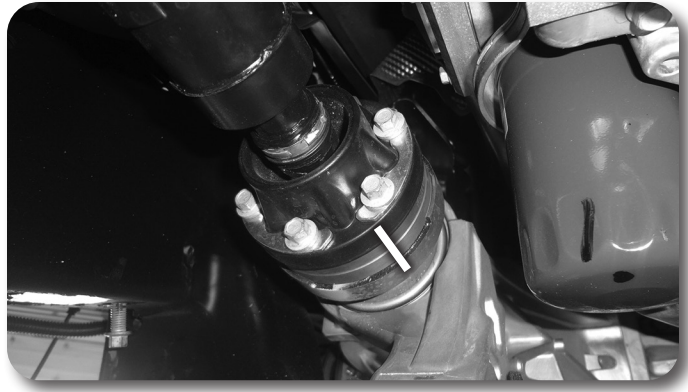

Figure 13
20. Make an alignment mark to show the relationship between the front driveshaft and the differential yoke. Remove the six driveshaft bolts and disconnect the driveshaft from the differential. Save bolts Fig. 13.